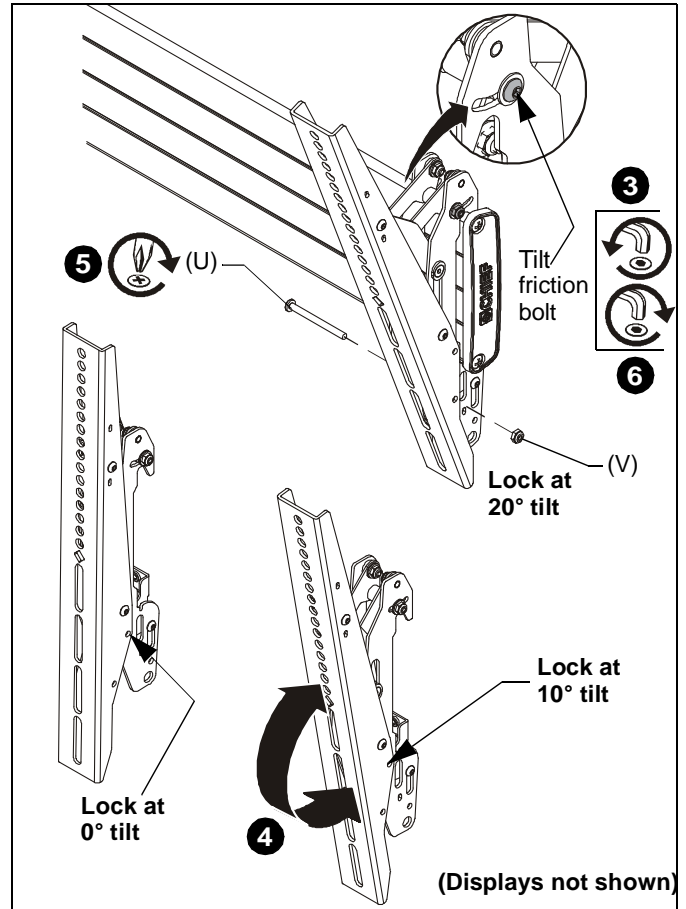

Figure 11
3. If necessary, loosen button head tilt friction bolt (located on side of interface bracket). (See Figure 11)
4. Adjust tilt as required. (See Figure 11)
5. The tilt may be locked at 0°, 10° and 20° using one 10-24 x 2-1/4" Phillips head screw (U) and one 10-24 lock nut (V) per interface bracket. (See Figure 11)
6. Tighten button head tilt friction bolt as necessary. (See Figure 11)